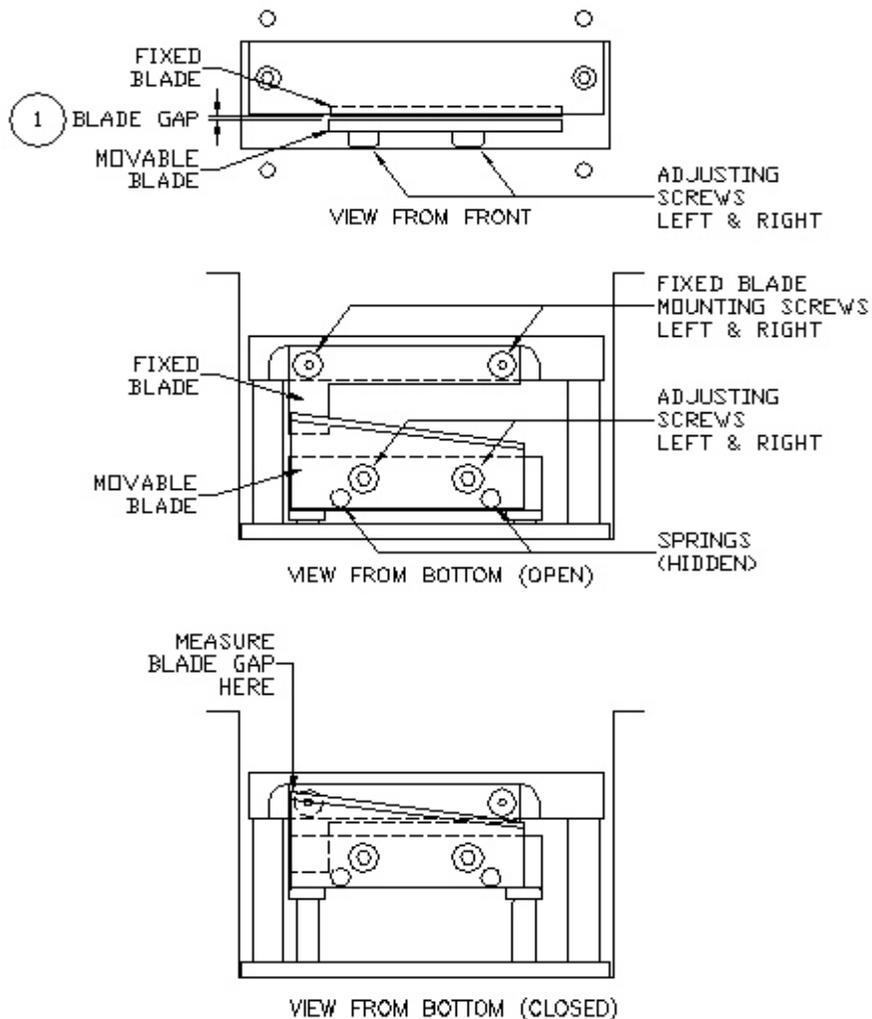

Figure 8.6
- c. Blade Replacement: (refer to fig. 8.6) Tools Needed: 1/8", 3/16" and 5mm hex keys.
- ii. Remove the Movable Blade by using the 5mm hex key to remove the two (2) adjusting screws. Be careful to catch and retain the two (2) springs that are behind the blade and the locking nuts that are on the other side of the mounting block.
- iii. Remove the Fixed Blade by using the 1/8" hex key to remove the two (2) mounting screws.
(Refer to fig. 8.6) Tools Needed: 3/16" and 5mm hex keys.
- b. By hand, slide the Movable Blade forward to the fully closed position. If it does not move smoothly, use the 5mm hex key to turn the two (2) adjusting screws CCW until it does.
- e. Adjustment 2: Turn the Left adjustment screw CCW 1/3 turn (120°). The Blade Gap should now be approximately .040" (1.0 mm). Measure the gap at point marked (1) in fig. 8.6.